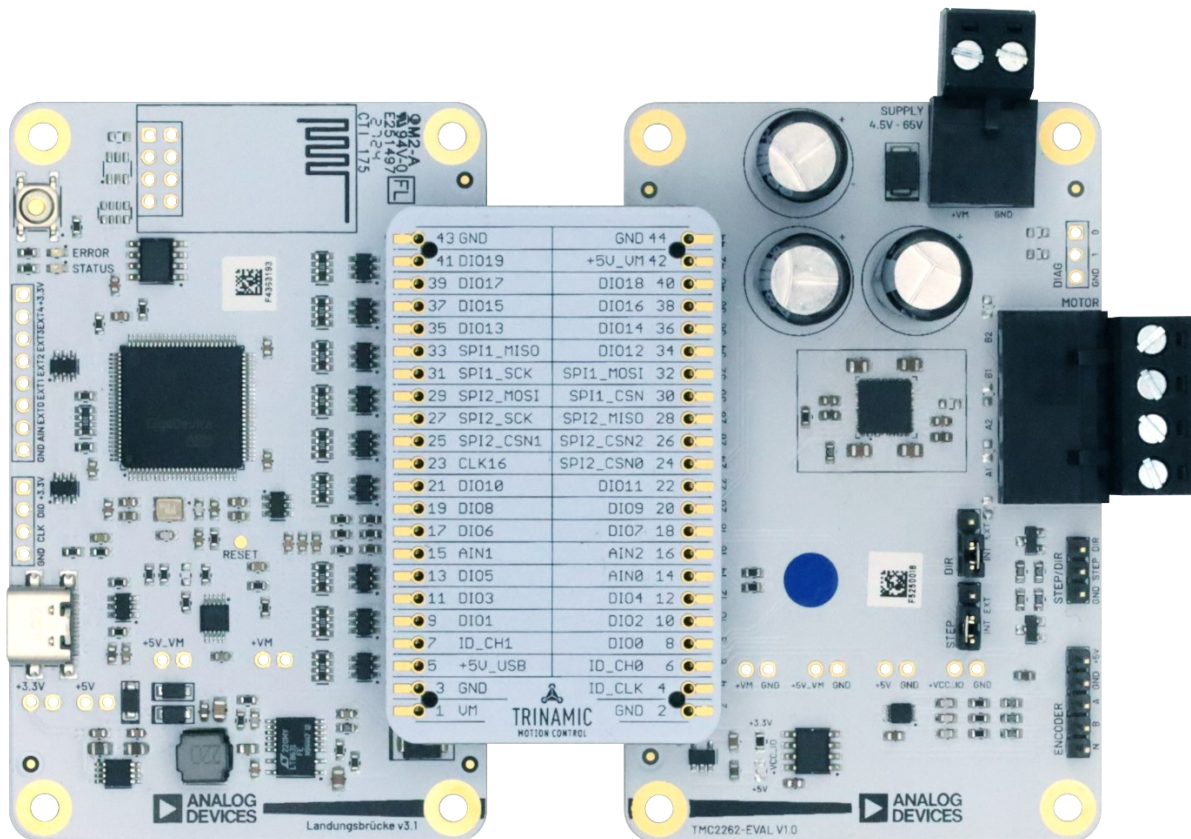

Figure 1. Assembled TMC2262-EVKIT
1. Interface the TMC2262-EVAL with the Landungsbruecke through the Eselsbruecke bridge board as shown in Figure 1. While connecting the boards, both the Landungsbruecke and the TMC2262-EVAL must not be powered. Make sure that every pin in the connector is connected to its corresponding header. The working area is nonconductive to prevent shorting of pins on the backside of the boards.